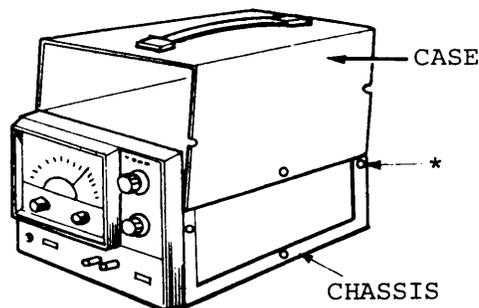

Fig. 11. Replacing the case.
2. REPLACING THE CASE (See Fig. 11)